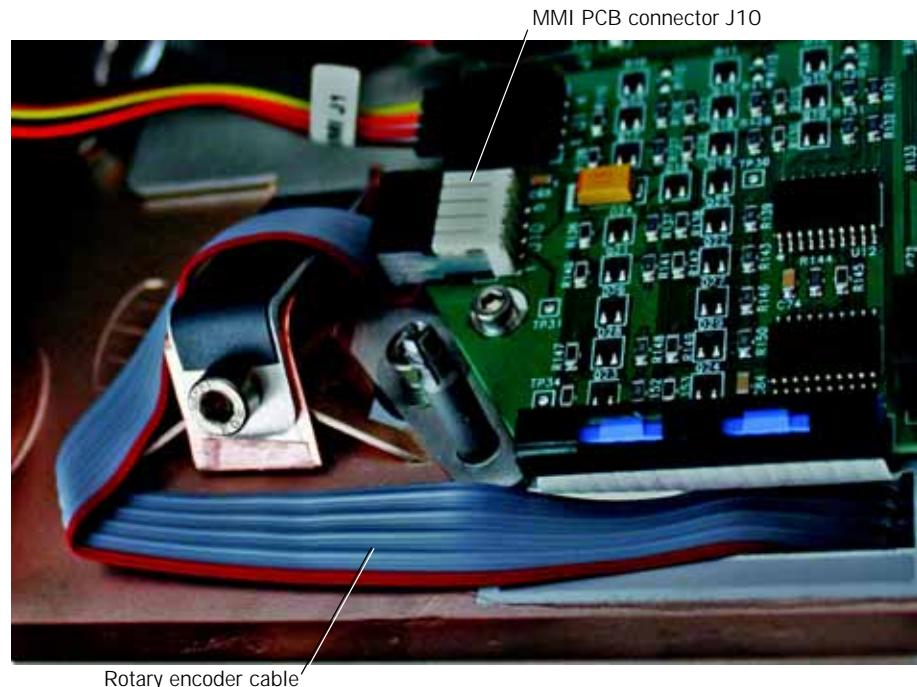

Figure 10-18: Disconnecting the Rotary Encoder
NOTE: Reinstall the rotary encoder ribbon cable according to the orientation shown in Figure 10-18.
3. Disconnect the rotary encoder cable from MMI PCB connector J10 (Figure 10-18).